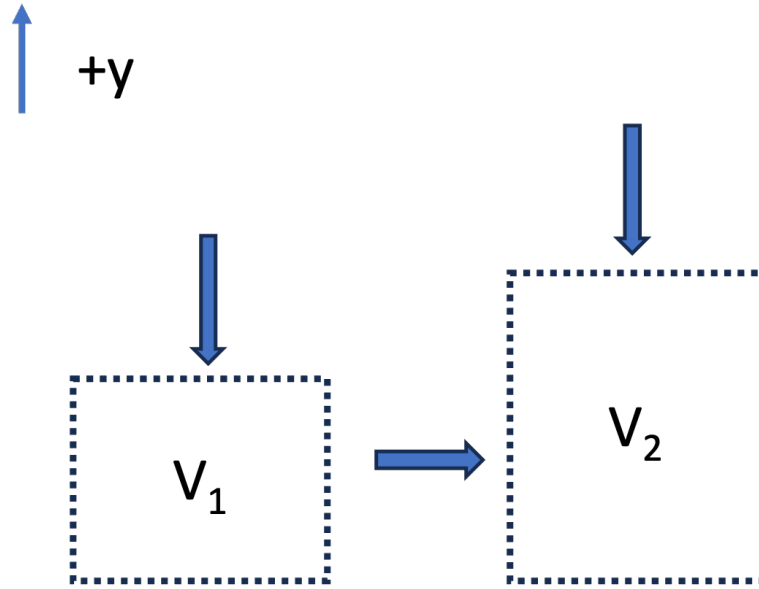

Fig. 3: Free body diagram of gas in a piston-cylinder
**What are the forces on the system?** Consider a free body diagram, as shown in Fig. 3.